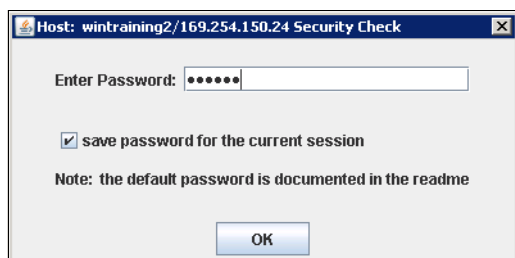

Figure 7-58 Firmware update security check window
8. Enter your password (Figure 7-58), and then click **OK**.